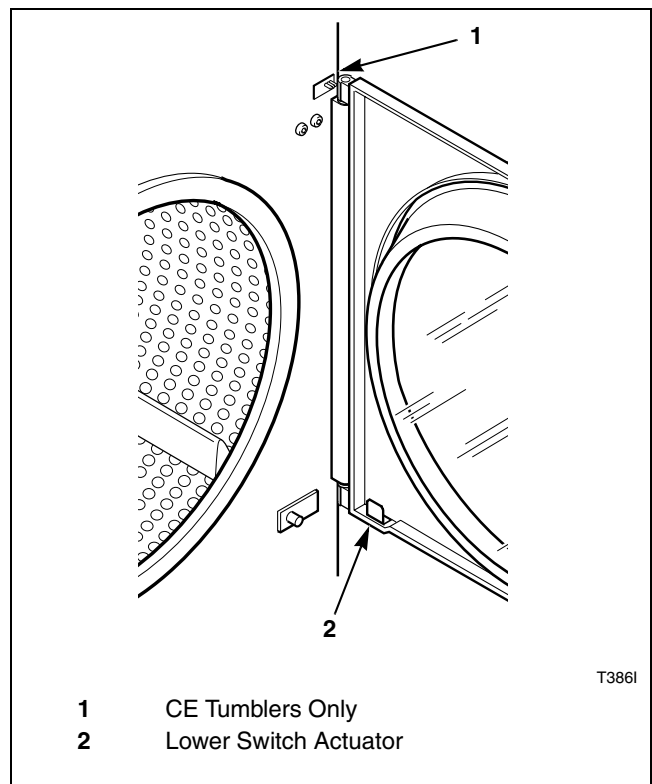

Figure 16
The door switch should be adjusted so the cylinder stops when door is opened 2 inches (51 mm) plus or minus 0.25 inch (6 mm). This switch is a normally open switch and is closed by the hinge cam when the door is closed. If adjustment is required, refer to *Figure 16* and proceed as follows:
CE tumblers have a second door switch near the top of the door (refer to *Figure 16*). This switch also should be adjusted so cylinder stops when door is opened within 0 – 2 inches (0 – 51 mm). This switch is normally closed and is opened by the hinge cam when the door is opened. If adjustment is needed, refer to *Figure 16* and proceed as follows:
1. Remove lower switch actuator (*Figure 16*) so upper switch “click” can be heard.